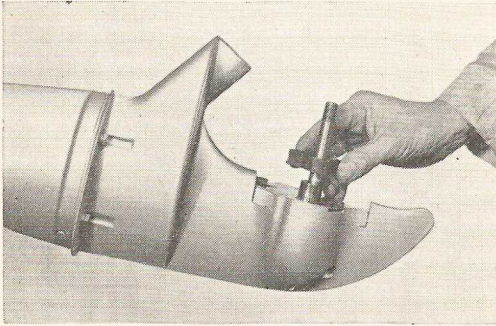

Fig. 45—Showing installation of New Pump Rotor.
5. Lift old rotor from eccentric. Fig. 45.
6. Install new rotor — slip over pump eccentric. Fig. 45.